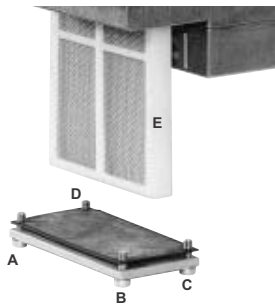

Fig. 36
- 2 Remove screws 1 ÷ 6 (Fig. 36).